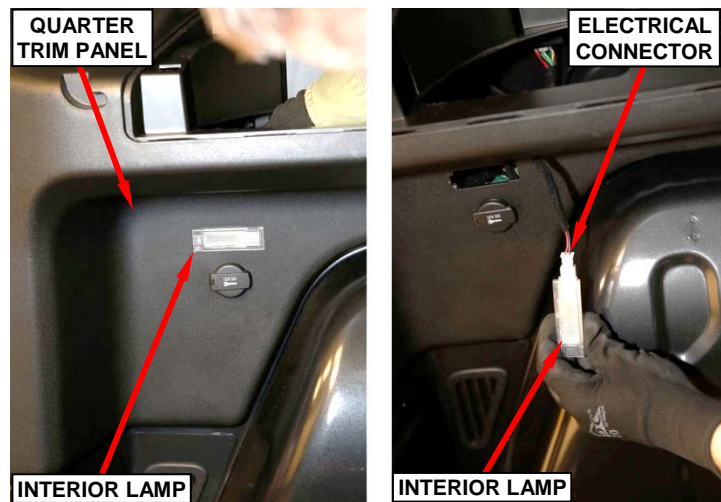

Figure 15 – Interior Lamp
16. Reach in behind the left rear quarter trim panel to release the interior lamp housing from the quarter trim panel (Figure 15).
17. Disconnect the electrical connector from the interior lamp then remove and save the interior lamp (Figure 15).
33. Connect the electrical connector to the interior lamp then install the interior lamp housing to the left rear quarter trim panel (Figure 15).